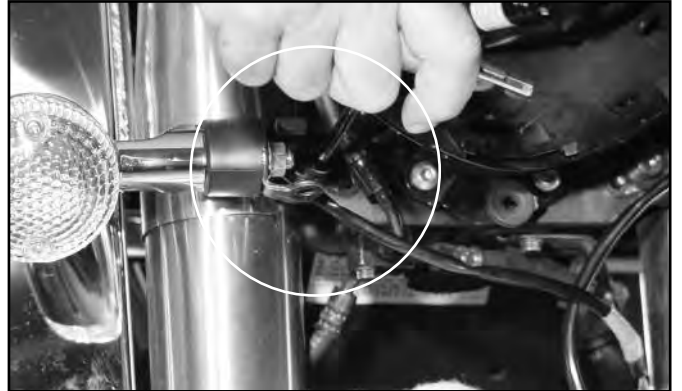

Figure 5
7. Remove the Screws that hold the turn signal bar to the bike. **(6mm Hex Key) Figure 5**